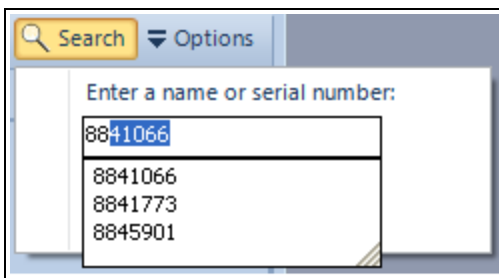

Figure 40: Example: Device Search
- As text is entered in the search fields, **Tool Suite** searches for devices that match the search criteria and shows the matches in a list. Figure 40